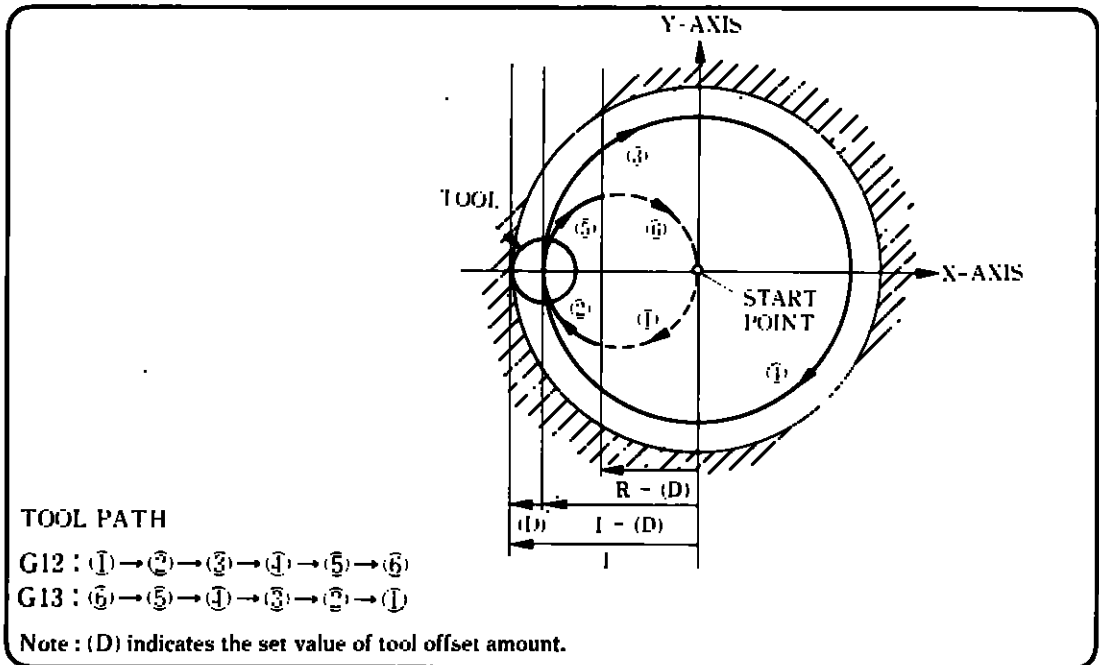

Fig. 2.13.24 X-Direction Movement (Object to Y-Axis)
4. Although movements in “X+” direction are explained here, movements in “X-” direction (symmetrical to Y-axis) can also be made by changing the signs of I, J, K, and D accordingly. In the example in Fig. 2.13.24, all I, R, and (D) are negative. Note however that cutting in the direction toward Y-axis is impossible.